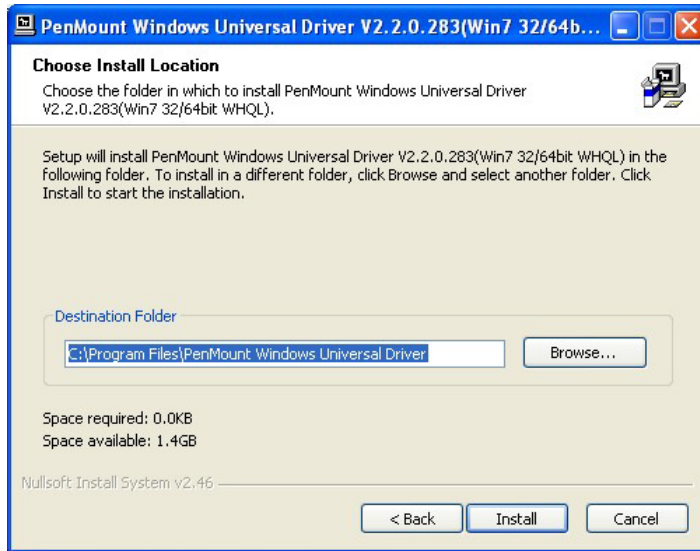

Figure 7-4: Initiate Install
Step 14: The installation destination screen appears. See **Figure 7-4**. Click **Install**.